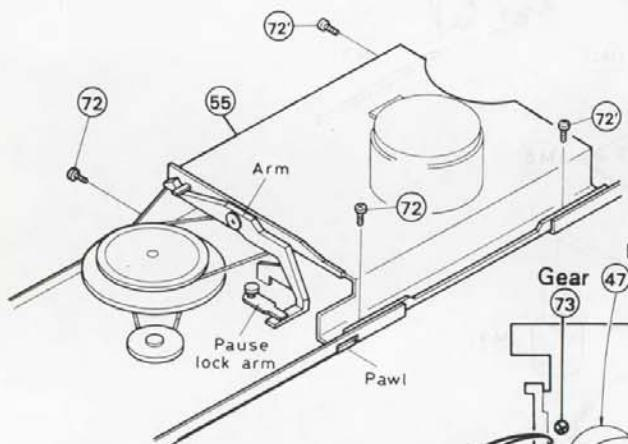

Fig. 7-20
■ Motor bracket (Fig. 7-6, Fig. 7-20)
- 1) Remove the two screws (72), retaining the motor bracket.
- 2) Remove (72') and (72'') retaining the motor bracket (55).